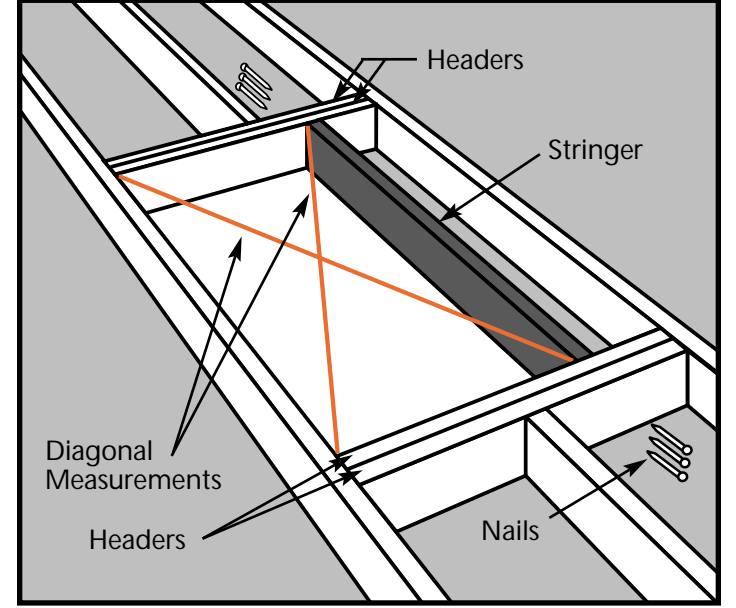

Figure 19
- STEP 4. Position the stringer(s) along the unframed side(s) of your location (Figure 19). Check that the inside dimensions of the frame are the same as the rough opening shown on the box or in Table 2 on page 6.
- STEP 5. To attach the stringer(s) to the headers, use nails that are long enough to go through both headers and into the stringer at least one inch. In most cases, a 4 inch nail (20d) will be long enough. Square the stringer(s) to the headers at one end and drive 3 nails through the headers and into the stringer. Check for squareness, then nail the other end. Check the rough opening for squareness by measuring across the diagonals. The two measurements should be within 1/8" to be considered square (Figure 19).